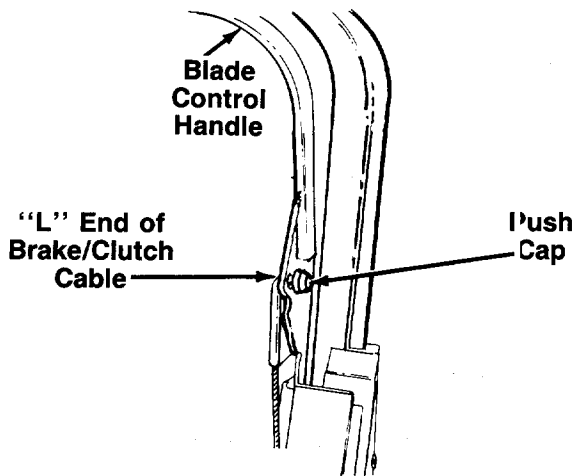

FIGURE 7.
3. Insert the "L" end of the brake/clutch cable into the hole in the blade control handle, from the inside to the outside as shown in figure 7. Hold the end of the cable, and press push cap on by hand.